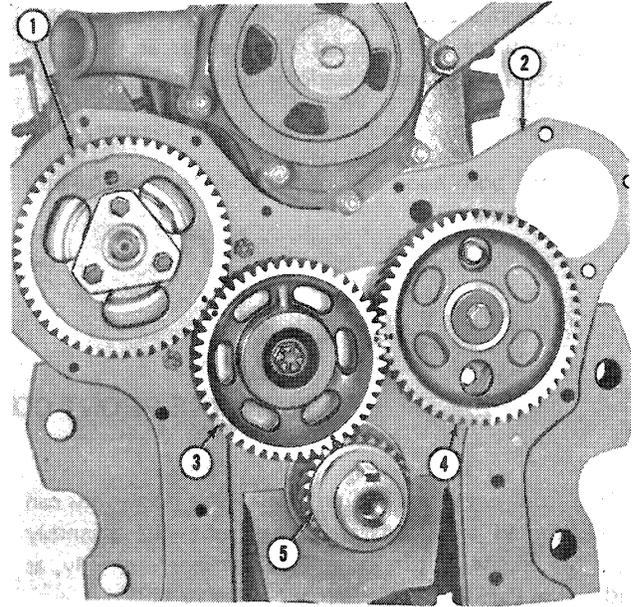

Figure 25
1. The timing gears are shown in Figure 25. The gears are correctly assembled when the timing marks on the gear teeth line up, as shown in the illustration, with the No. 1 piston on TDC.